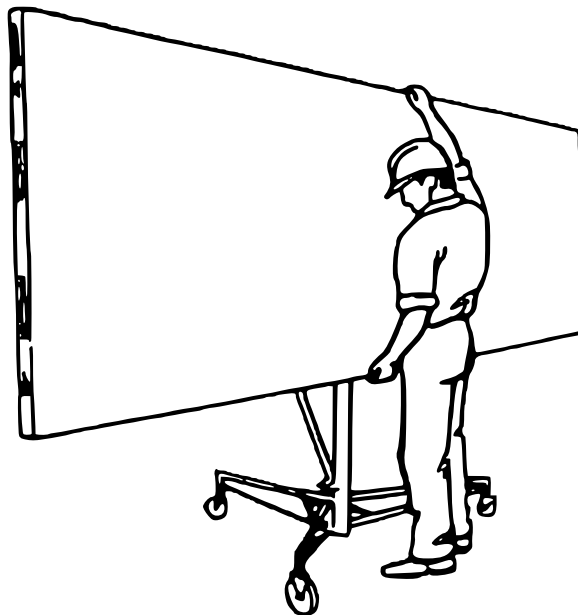

Figure 10
5. Hold the drywall panel with its face paper toward the tilted cradle, and load the panel onto the lift as shown (Fig. 10). Set the panel onto the support hooks, and carefully lean it against the crossarms.